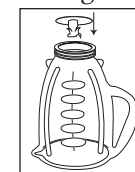

Fig2
2. Place blade into jar. (Fig2)